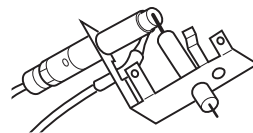

Figure 18 - Pilot
8. Light pilot burner with a match, (see Figure 18).